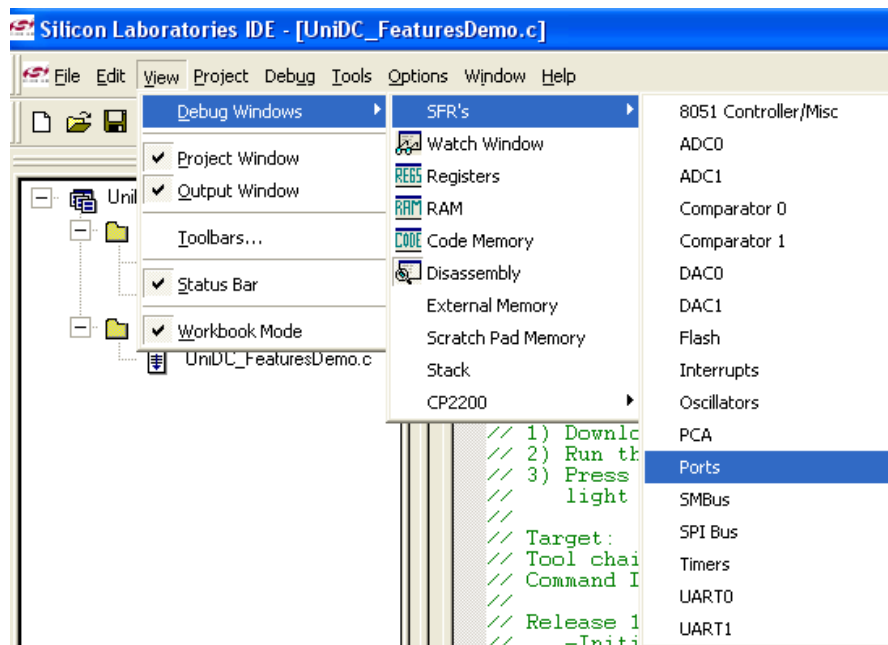

Figure 9. Ports Debug Window
1. Open the Ports Debug Window from the **View** → **Debug Windows** → **SFR's** → **Ports** menu option shown in Figure 9. The Ports Debug window appears on the right-hand side of the IDE. In this window, the P74OUT register is shown. This register sets the output mode of ports 4 through 7.